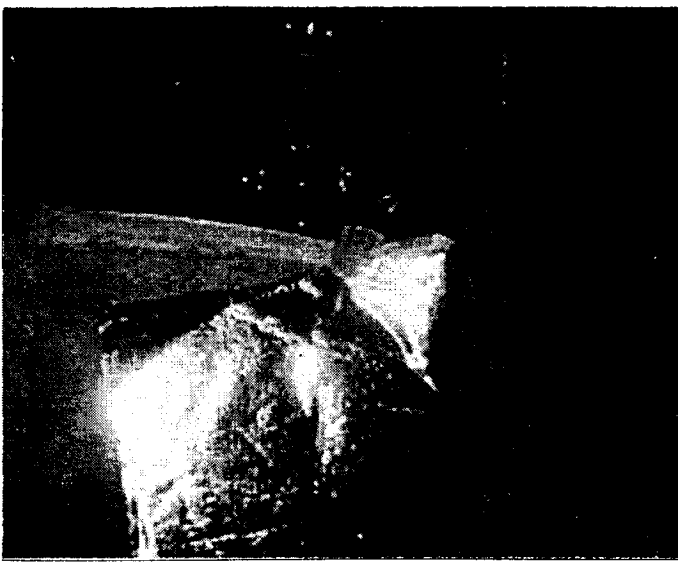

Figure 1
- a. Insulation shall be flexible type minimum density of 3/4 pounds per cubic foot for rectangular, round and oval ducts. See figures 1 and 2.
- a. Insulation shall be flexible type minimum density of 3/4 pounds per cubic foot. See figures 1 and 2.